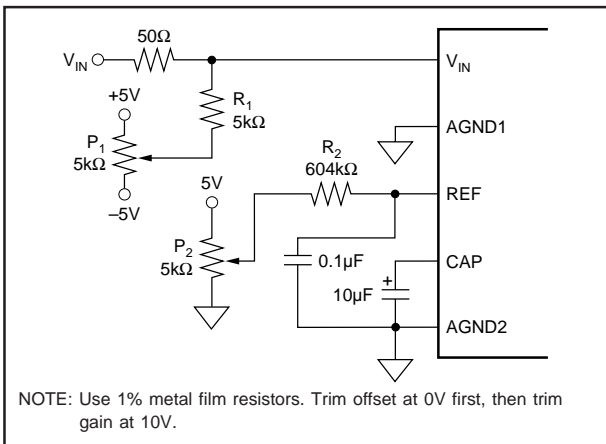
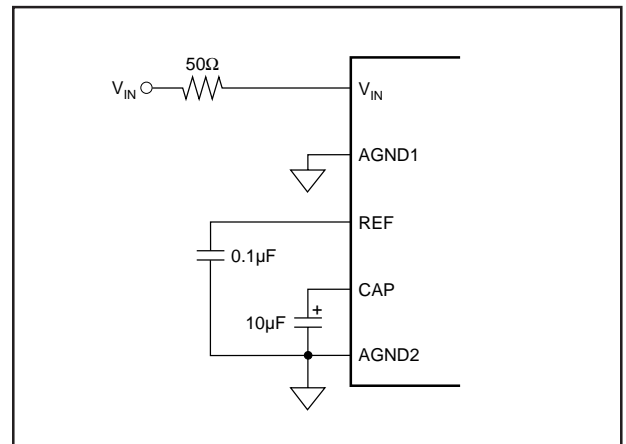
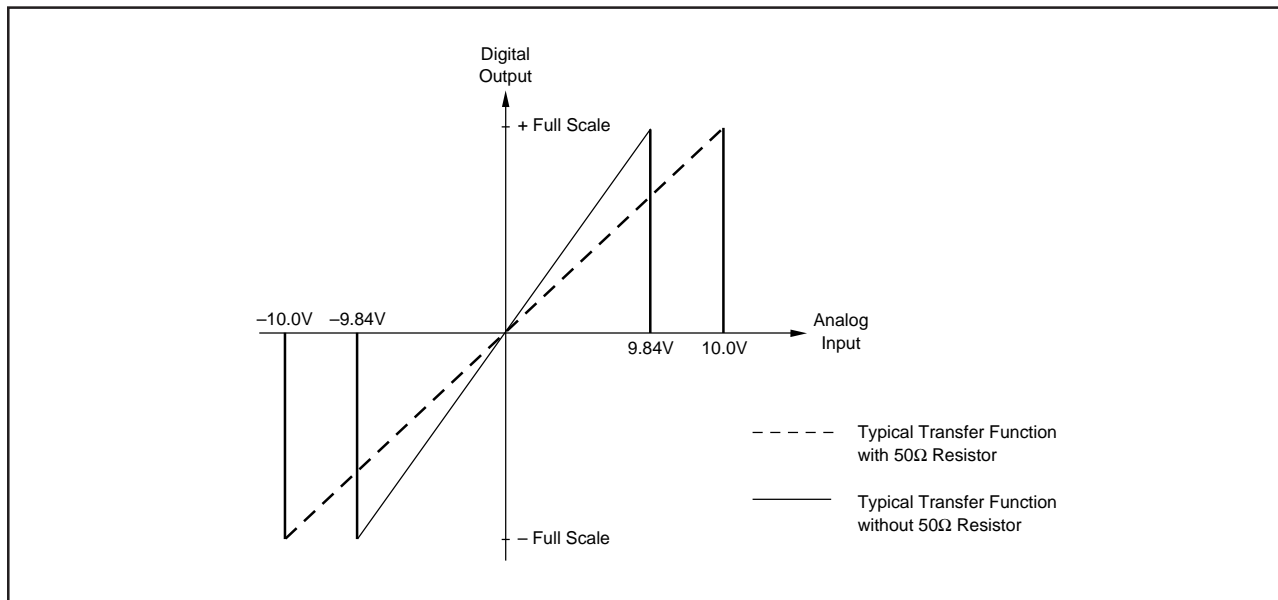

FIGURE 4a. Circuit Diagram With External Hardware Trim.
FIGURE 4b. Circuit Diagram Without External Hardware Trim.
FIGURE 5. Comparison of the ADS7810 Transfer Function With and Without the  $50\Omega$  Series Resistor on  $V_{IN}$ .
T = +25°C,  $f_s = 800\text{kHz}$ ,  $+V_{\text{DIG}} = +V_{\text{ANA}} = +5\text{V}$ ,  $-V_{\text{ANA}} = -5\text{V}$ , using internal reference and the input  $50\Omega$  resistors as shown in Figure 4b, unless otherwise specified.
T = +25°C, fS = 800kHz, +VDIG = +VANA = +5V, -VANA = -5V, using internal reference and the 50Ω input resistors as shown in Figure 4b, unless otherwise specified.
The ADS7810 offers a standard  $\pm 10V$  input range. Figures 4a and 4b show the necessary circuit connections for the ADS7810 with and without external trim. Offset and full scale error(1) specifications are tested and guaranteed with the  $50\Omega$  resistor shown in Figure 4b. This external resistor makes it possible to trim the offset  $\pm 50mV$  using a trim pot or trim DAC. This resistor may be left out if the offset and gain errors will be corrected in software or if they are negligible in regards to the particular application. See the **Calibration** section of the data sheet for details.
To calibrate the offset and gain of the ADS7810, install the proper resistors and potentiometers as shown in Figure 4a. The calibration range is  $\pm 50\text{mV}$  for bipolar zero and  $\pm 120\text{mV}$  for full scale.
See Figure 4b for circuit connections. Note that the actual voltage dropped across the  $50\Omega$  resistor is nearly two orders of magnitude lower than the voltage dropped across the internal resistor divider network. This should be taken into consideration when choosing the accuracy and drift specifications of the external resistors. In most applications, 1% metal-film resistors will be sufficient.
The external  $50\Omega$  resistor shown in Figure 4b may not be necessary in some applications. This resistor provides trim capability for the offset and compensates for a slight gain adjustment internal to the ADS7810. Not using the  $50\Omega$  resistor will cause a small gain error but will have no effect on the inherent offset error. Figure 5 shows typical transfer function characteristics with and without the  $50\Omega$  resistor in the circuit.